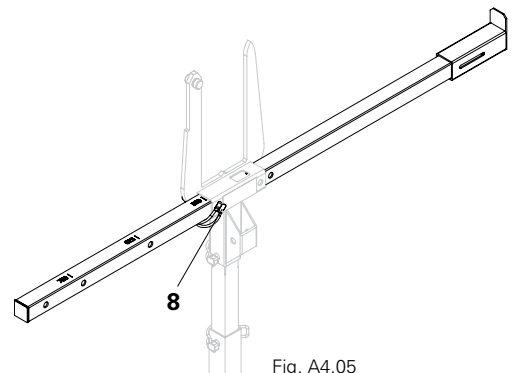

Fig. A4.05
4. Secure with the tube clip (8). (Fig. A4.05)